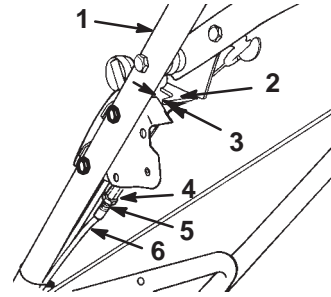

Figure 32
- A. Loosen the jam nut on the blade brake cable (Fig. 32).